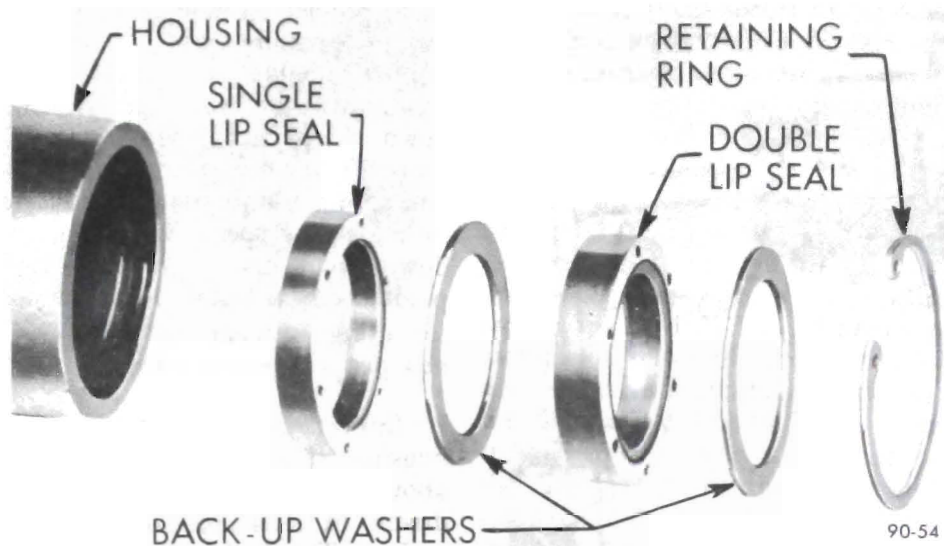
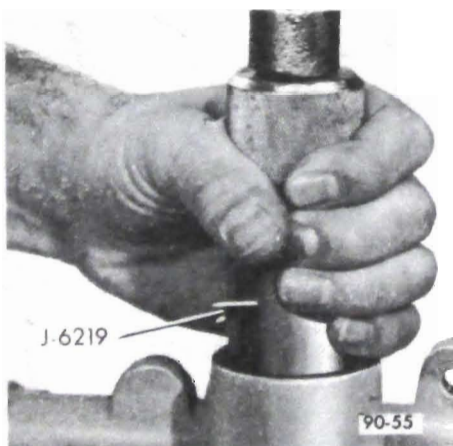

Figure 90-65 Pitman Shaft Seals
Figure 90-66 Installing Pitman Shaft Seals
2. Lubricate new pitman shaft seals with power steering oil. Install the inner, single lip seal in bore first, then a back-up washer. See Figure 90-65. Using tool J-6219, drive the seal and washer in far enough to provide clearance for the outer seal, back-up washer and retaining ring. See Figure 90-66. *The inner seal must not bottom on the counterbore.* Install the outer double lip seal and the second back-up washer in bore only far enough to provide clearance for the retaining ring with tool J-6219. Install retaining ring with No. 3 Truarc pliers tool J-4245, making certain that ring is seated properly.